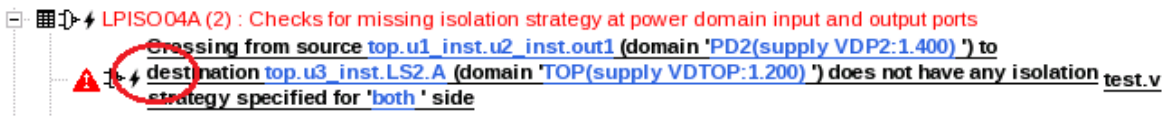

FIGURE 229. Violation Message with Power Intent View Enabled
- The violation message in SpyGlass Explorer shows a Power Intent icon, if the Power Intent View is enabled for that message. *Figure 229* shows a sample violation message for which the Power Intent View is enabled: